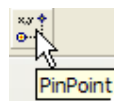

Figure 2: PinPoint Command
- In Drawing Editor, click **PinPoint** to start the 2D pinpoint as shown in Figure 2